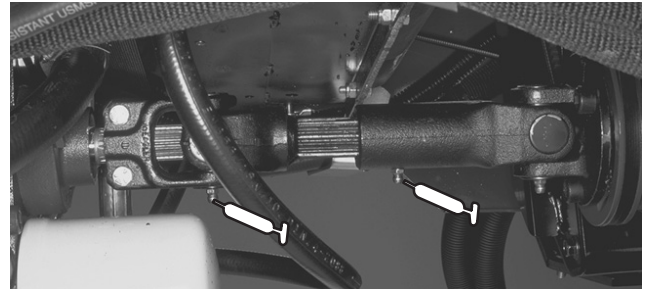
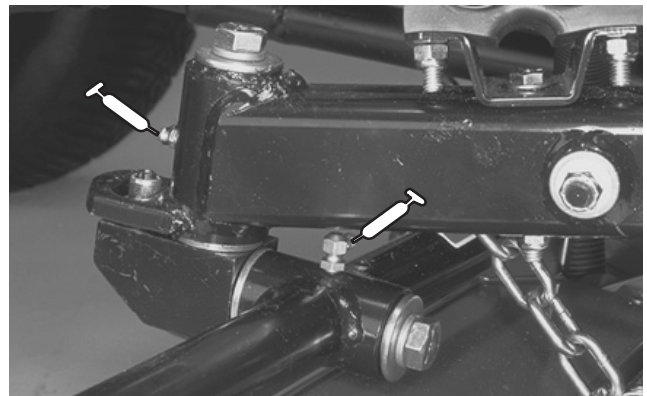

Figure 38
Figure 39
The grease fitting locations and quantities are: Engine Drive shaft (3), (Fig. 38); Cutting unit carrier frame and pivot (2 ea.), (Fig. 39); Lift arm pivots (5), Drive shaft clutch (1) (Fig. 40); Rear axle tie rod (2), Steering cylinder ball joints (2), Axle steering pivots (2) Rear axle pivot (1) (Fig. 41); Traction control linkage at transmission (1), Drive shaft support bearing (1), Rear axle drive shaft (3) (Fig. 42); Brake pedal (1) (Fig. 43); Lift cylinders (5) (Fig. 44) and Fan shaft (Fig. 45).